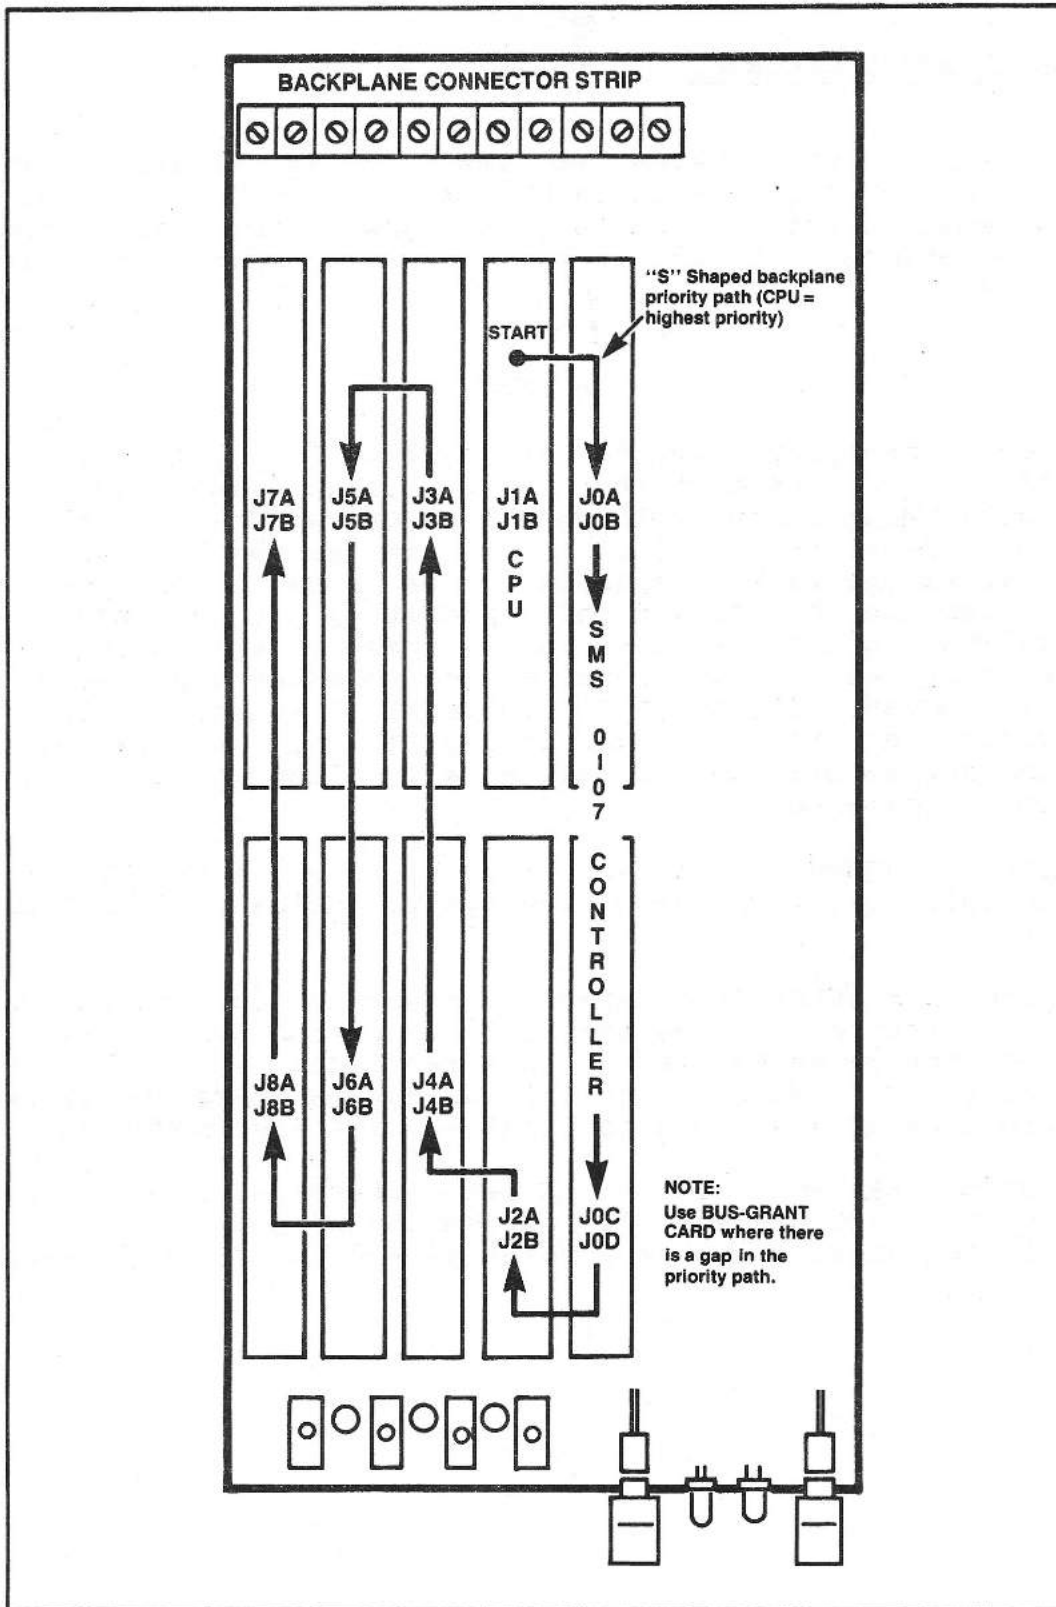

Fig. 3-2 Backplane priority scheme
Figure 3-2 is a diagram showing a layout of the Model 30 backplane and indicating the priority scheme, i.e. the priority path among the backplane sockets, that must be followed when inserting modules. Note the following points:
2. CPU. The LSI-11/23 or LSI-11/73 CPU is always located in the backplane A-B slot made up of sockets J1A and J1B. As can be seen from Figure 3-2, this gives the CPU the highest priority.
3. USE OF BUS-GRANT CARD. Other modules such as memory boards, DLV11-J cards, etc. may be inserted in the backplane at any desired location. However, it is essential to remember that the "S" shaped priority path through the backplane socket pairs (see Figure 3-2) must not be broken when adding or removing modules. This means that dual-width bus-grant continuity cards (part number AW 0004670 Rev. B) must be inserted in any socket pair (except the last) that is left open when quad-width and dual-width cards are intermixed in the backplane. For full instructions on use of the bus-grant cards, refer to the configuration instructions in Section 4 of this manual.